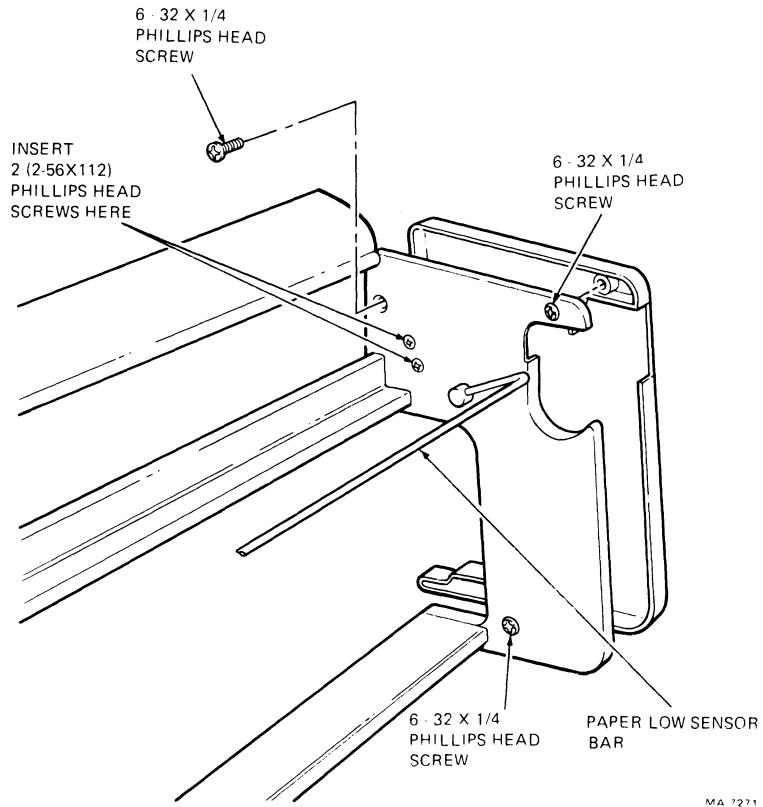
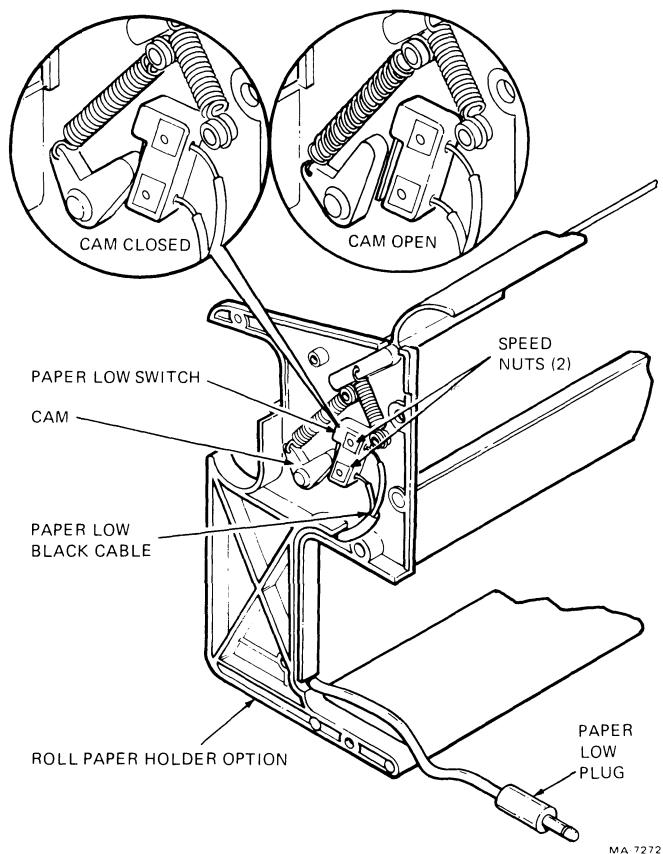

Figure 3-15 Roll Paper Holder Cover Cap
Figure 3-16 Paper Low Switch Installation
19. Using a Number 1 phillips screwdriver, remove the three (6-32 × 1/4) phillips screws that secure the right roll paper cover cap (as viewed from the back) to the roll paper holder, and set the cap aside (Figure 3-15).
20. Insert the two (2-56 × 1/2) flathead phillips screws through the inner side of roll paper holder (Figure 3-15).
21. Press down on the paper low sensor bar (Figure 3-15) to open cam (Figure 3-16).
23. Secure the paper low switch using two speed nuts (Figure 3-16).
24. Route the paper low jack cable through the paper holder assembly (Figure 3-16).